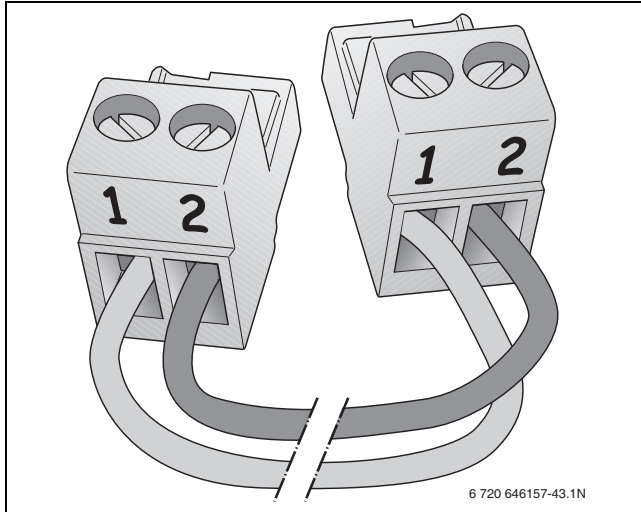

Fig. 46 EMS bus polarity
- Make an EMS bus connection cable using a 2-core cable and the connector enclosed with the module (→ fig. 46).